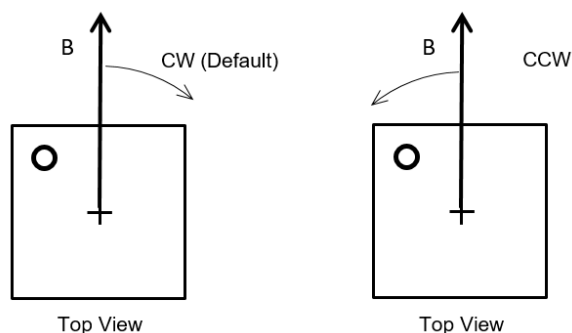

Figure 19: Positive Rotation Direction of the Magnetic Field
By default, when looking at the top of the package, the angle increases when the magnetic field rotates clockwise (CW) (see Figure 19 and Table 13).